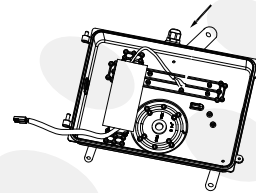

Figure 2
1. Take out the light, and loosen the screws on the cover and take apart the fixture by the screwdriver. Pull off the quick connect terminal vigorously. (Figure 1, A&B) 2. Choose an appropriate connection hole according to your requirements. Loosen the plug, and then tie the waterproof connector from the accessories; rotate the three mounting kits to the proper angle. (Figure 2)